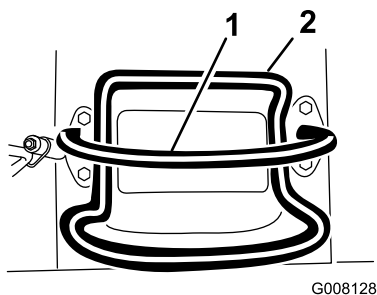
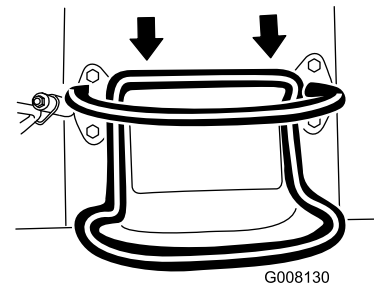

Figure 8
Figure 10
- To move rearward, move the traction control rearward (Figure 10). When reversing, look behind for obstructions and keep your hands on the reference bar (Figure 8).
- To stop, release the traction control (Figure 8).